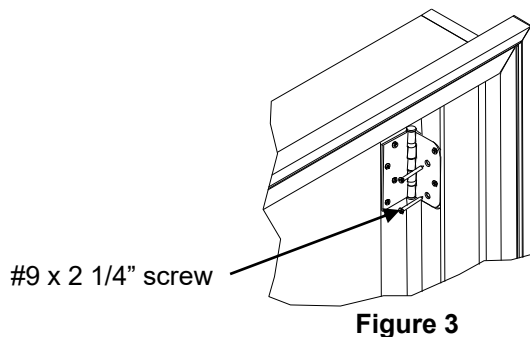

Figure 3
- 3** Install 2 screws at the location shown in Figure 3 on the top hinge and 1 each on the lower 2 or 3 (8ft door) hinges (screws included in installation kit).